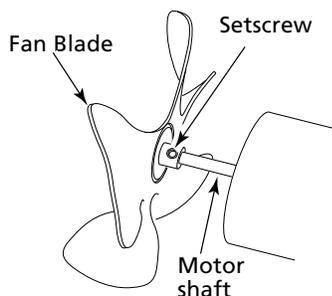

Figure 6 - Fan, Motor Shaft, and Setscrew Location
2. Use hex wrench to loosen setscrew which holds fan blade to motor shaft (See Figure 6).